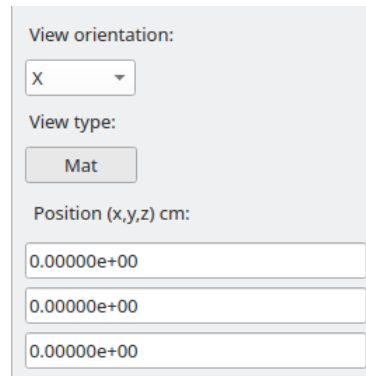

Figure 3: Common parameters.
Once the geometry is load, the user can move the camera inside the geometry using the interface or the shortcuts described following and shown in the Figure 3:
- **View orientation:** This menu, which is labelled with a **X** in the Figure 3, allows the user to change the 2D plane where the geometry is rendered (*X*, *Y* or *Z*) or changing to a 3D view. It can be changed also selecting the render window and pushing the *x*, *y* or *z* keys respectively.